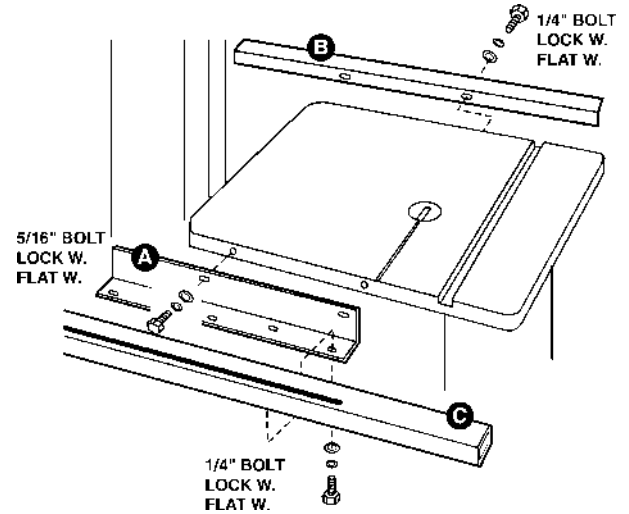

FIGURE 1
1. Attach the front rail (A), Figure 1, to the cast iron table with two 5/16" x 1-1/4" hex cap bolts, two 5/16" lock washers, and two 5/16" flat washers. Bolts should be placed horizontally in approximately the center of the slot. Hand tighten only.